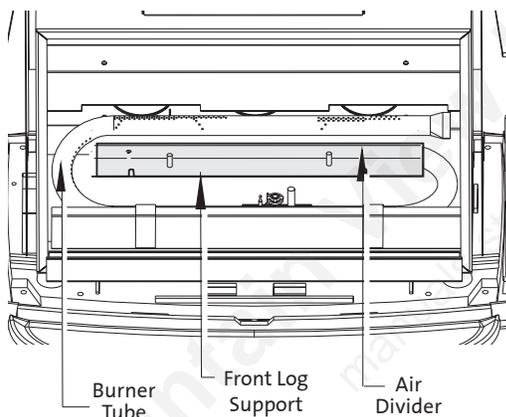

Figure 12. Remove the Air Divider and Log Support.
2. Remove the top griddle (7).
3. Locate the two set screws near the top of each side casting (3, 8). Using a 3mm allen wrench thread the set screws out. Lift off the top panel of the stove (6).
5. Release the glass clips (17) atop the firebox (22) and slowly lift glass assembly (16) up and out.
6. Remove the four logs (36) using care not to scratch or damage the logs.
7. Using a 1/4" nut driver remove the two hex head screws that secure the air divider (21) to the front log support (18) and lift out of the firebox (22). See Figure 12.